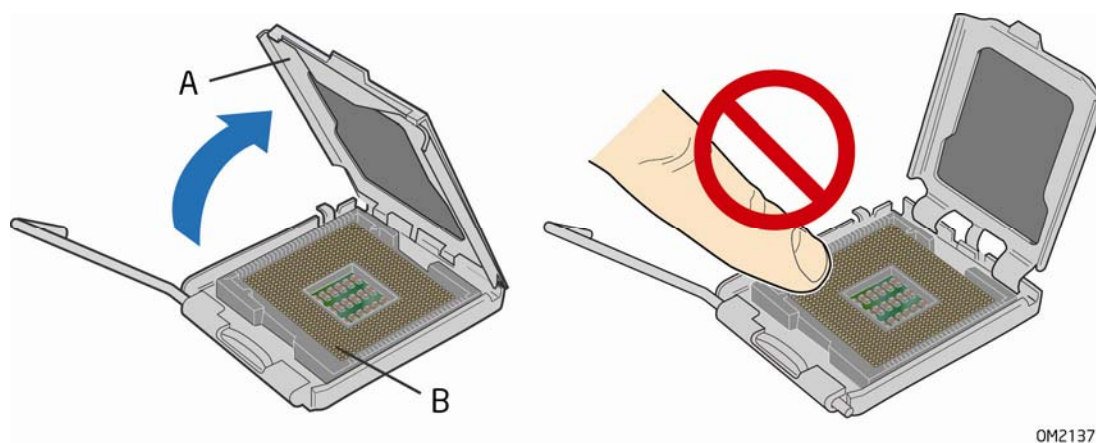

Figure 7. Lift the Load Plate
3. Lift the load plate (Figure 7, A). Do not touch the socket contacts (Figure 7, B).